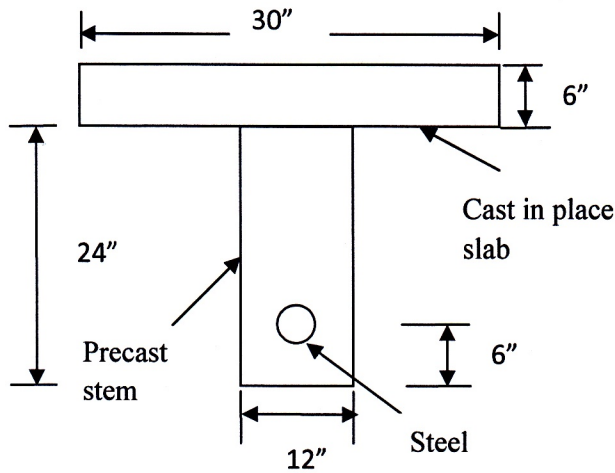

Figure: 2
3. A section of simply supported composite beam is shown in **Figure: 2**. The precast stem is prestressed with an effective force of 400 kips assuming a total loss as 15%. Compute the stresses in the section at different stage of loading and also draw the stress distribution at these stages if the bending moment at the section are as follows: (25)